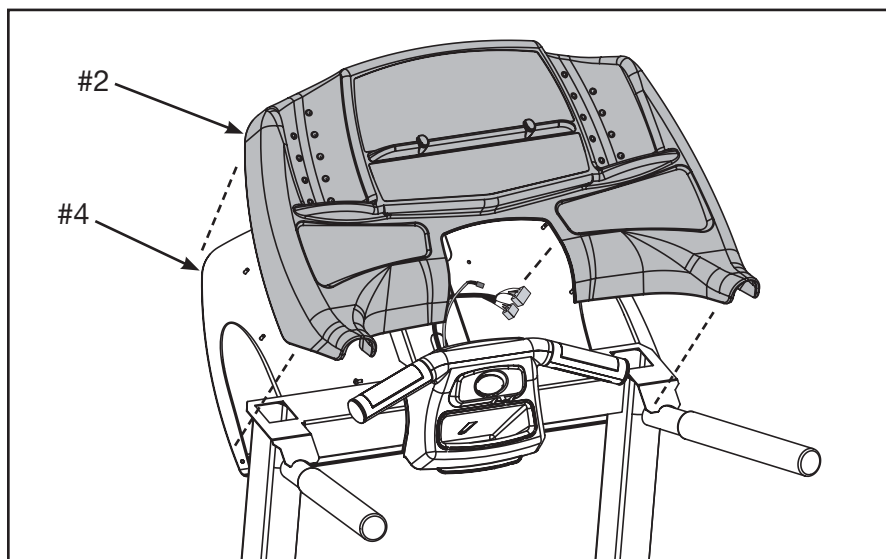

Figure 7
- B.** Place the console assembly (#2) in position on the console back (#4). See Figure 7.